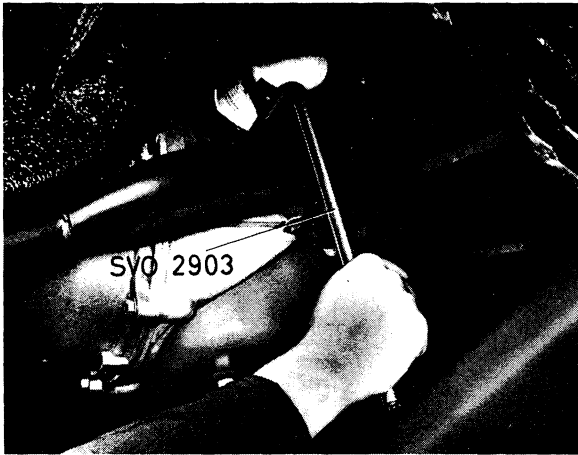

Fig. 2-48. Removing oil filter
1. Remove the old filter with the help of chain tongs, see Fig. 2-48.